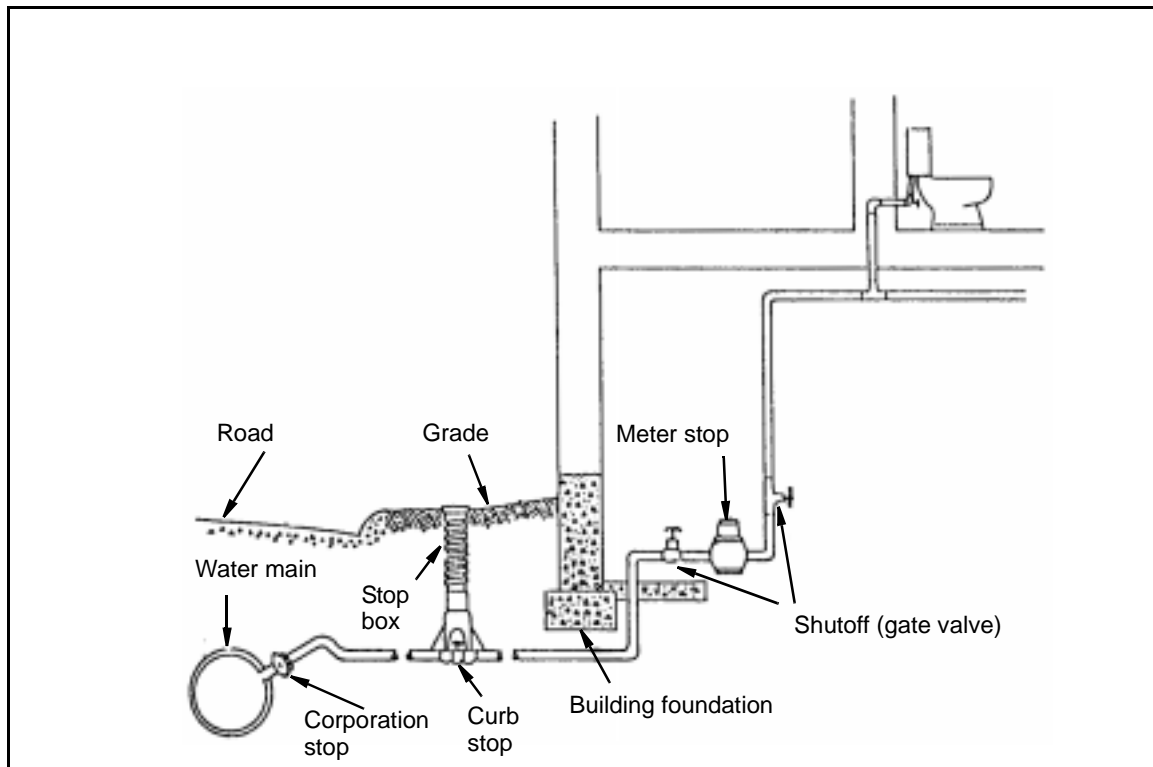

Figure 1-3. Curb and Meter Stops
Step 14. Remove the cap and drill tool. Place a corporation stop (*Figure 1-3, page 1-10*) in the boring bar, ensuring that the stop is closed.
1-35. Curb and meter stops control the water entering the building. *Figure 1-3* shows this installation.